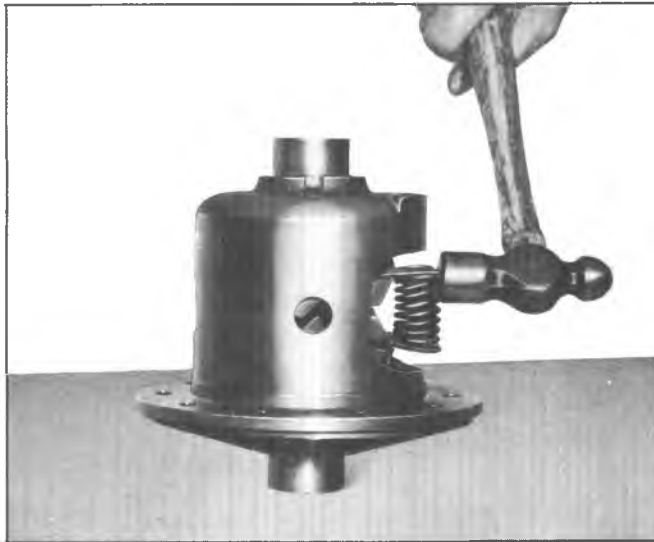

Fig. 14D—Installing Spring Pack
18. Drive spring pack into side gears sufficiently to retain front springs, then remove 1/4 inch bolts from springs. Drive spring pack into position. See Figure 14D.